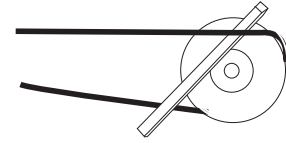

Figure 3
6. Always loosen tension enough to install belt without stretching, see Figure 3.